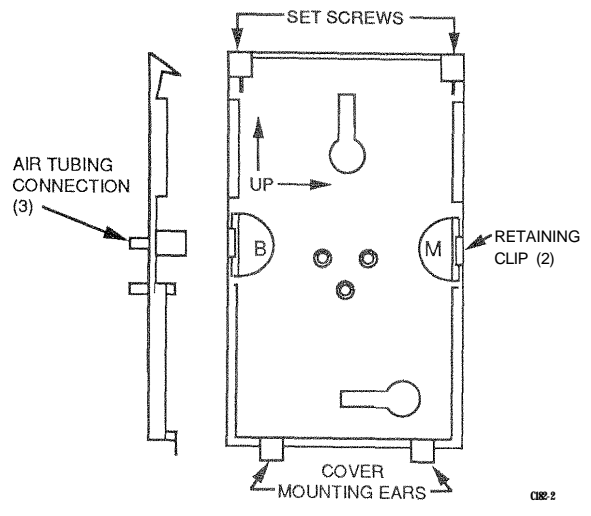
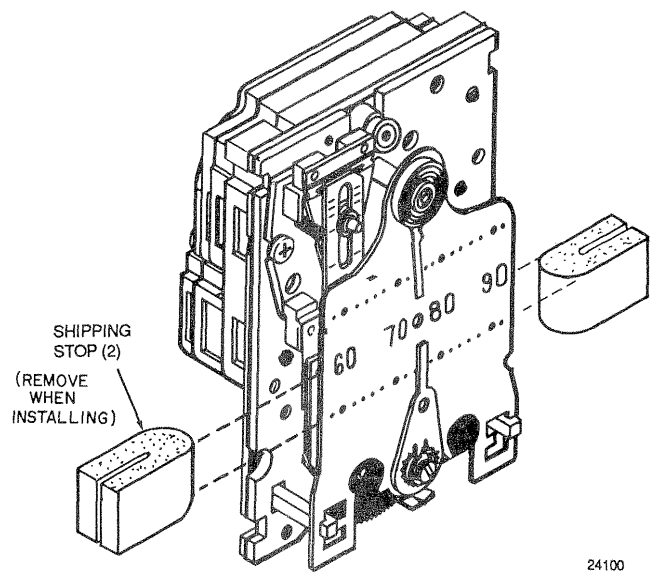
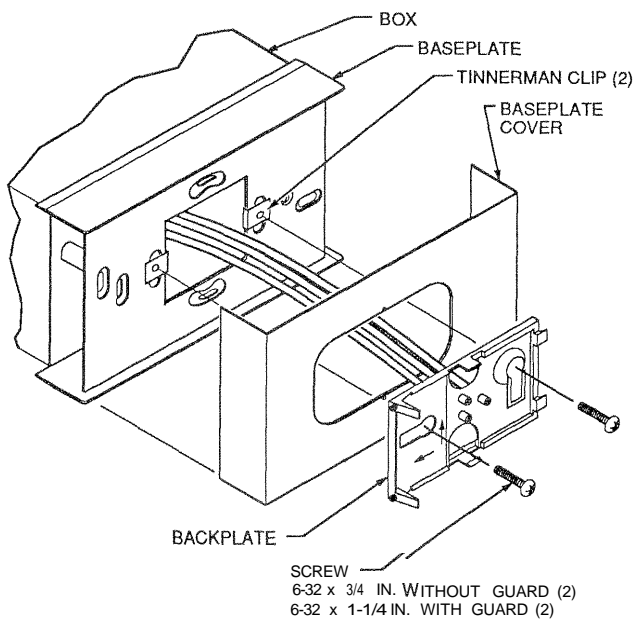
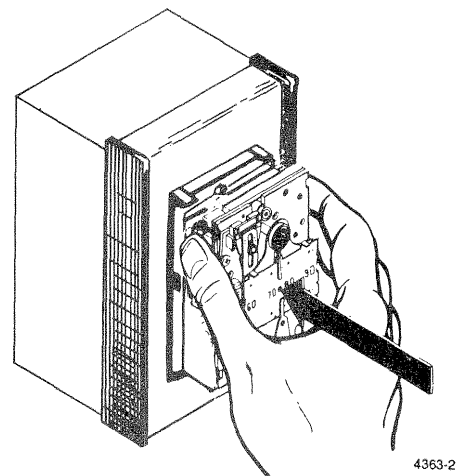

Fig. 4. Backplate.
Fig. 5. Removal of Shipping Stops, Thermostat Shown.
Fig. 3. Backplate to Baseplate Assembly.
Fig. 6. Thermostat/Humidistat Mounting to Backplate.
5. Slip the Tinnerman clips onto the baseplate with the threads below the baseplate (Fig. 3).
8. Connect the tubing to the backplate (Fig. 4) and use the screws to mount the backplate to the baseplate (Fig. 3). This holds the baseplate cover (and guard base) in place.
9. Remove any shipping stops (Fig. 5) and press the Thermostat/Humidistat in place onto the backplate (Fig. 6) until it is fully seated and the retaining clips on the backplate (Fig. 4) have engaged.
- Connect the tubing to the Thermostat backplate (Fig. 4) and use the screws to mount the backplate to the baseplate (vertical mounting: Fig. 10; horizontal mounting: Fig. 11). This holds the baseplate cover (and guard base) in place.
- Remove any shipping stops (Fig. 5) and press the Thermostat on the backplate (Fig. 6) until fully seated and the retaining clips on the backplate (Fig. 4) have engaged.
7. Remove any shipping stops (Fig. 5) and press the Thermostat onto the backplate (Fig. 6) until it is fully seated and the retaining clips on the backplate (Fig. 4) have engaged.